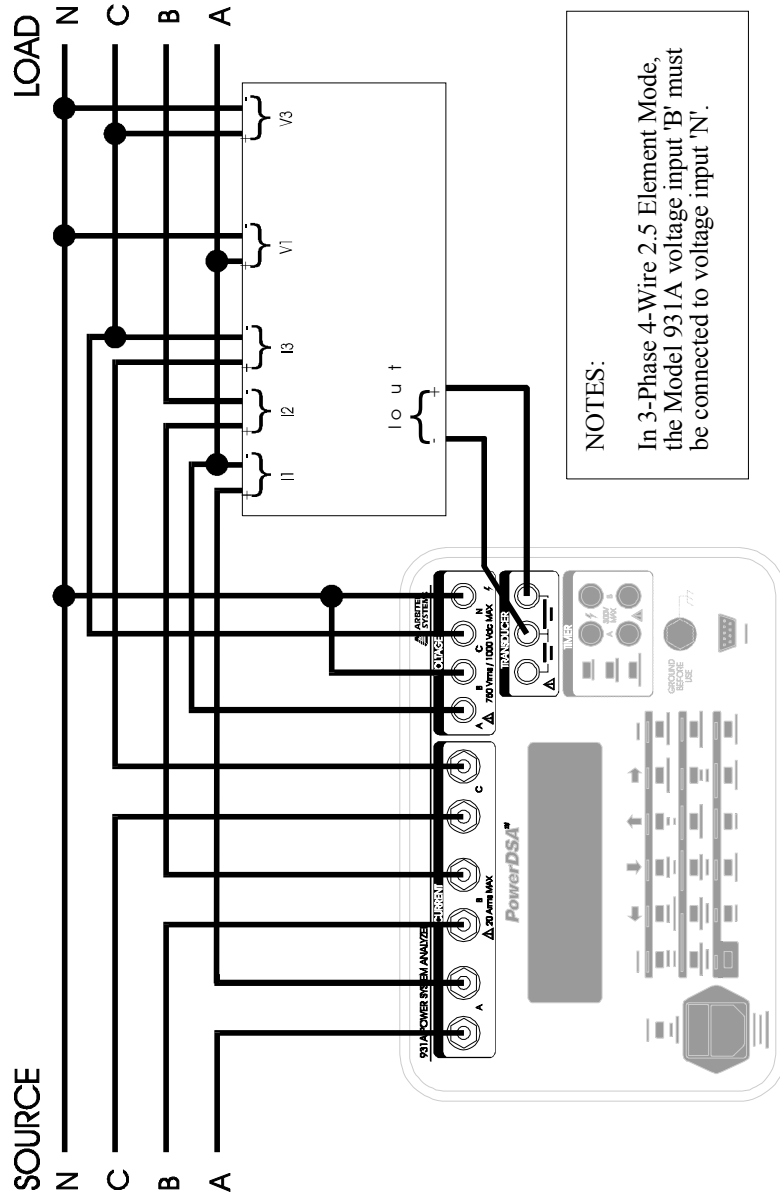

Figure 3-8 3-Phase, 4-Wire, 2.5 Element
- **“3Ph 4 Wire 3E”** sets the Model 931A to measure values on a 3-phase Y circuit, for comparison to a 3-element transducer. See Figure 3-8.